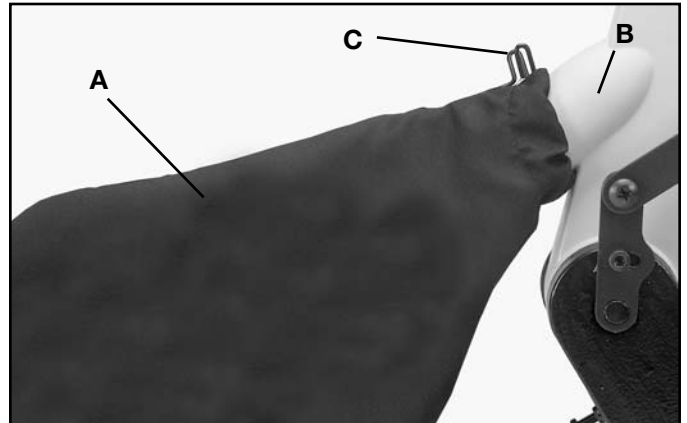

Fig. 7
1. Assemble dust bag (A) Fig. 7, to the dust spout (B) making sure the wire ring (C) is engaged with the groove in the spout.